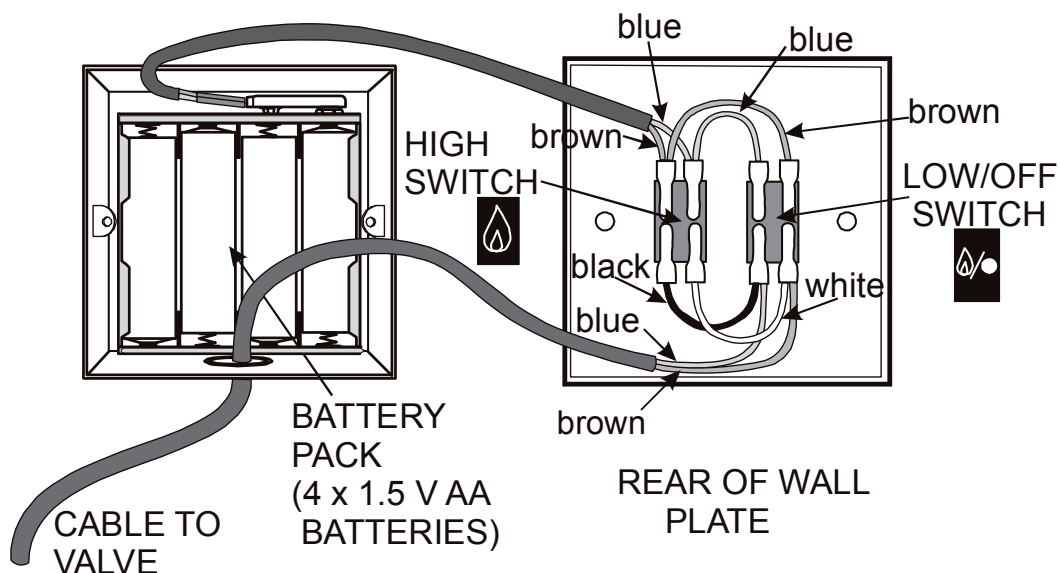

Figure 66
3. Make the connections on the wall switches as shown in **Figure 66**.